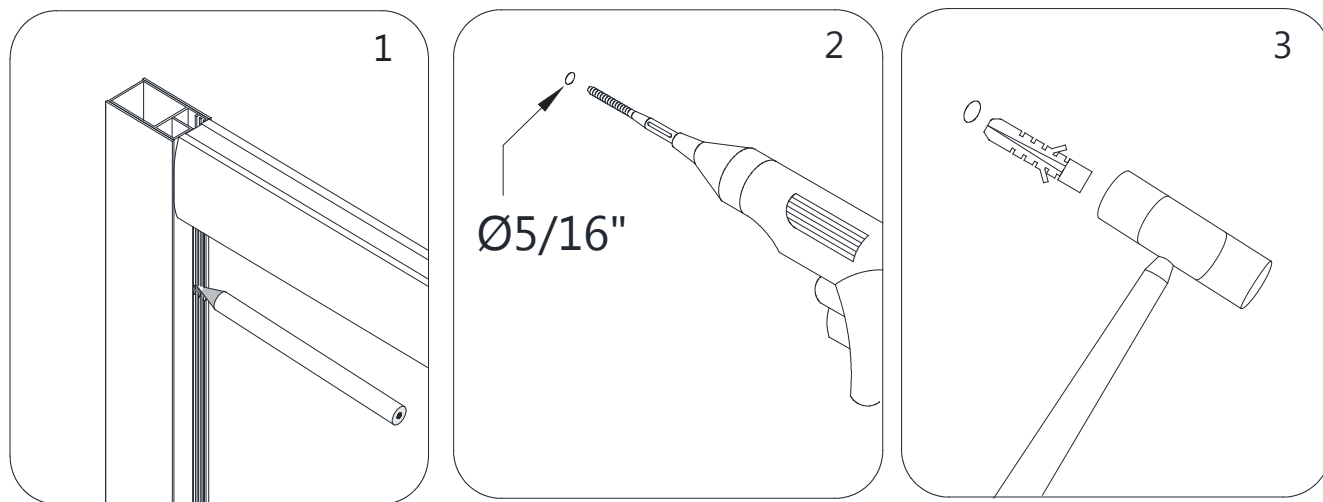

Fig 9
7. Use an assistant to hold the assembly in position and mark the holes for drilling on the wall through the holes in the **Glass Profiles (#01)** and the **Wall Profiles (#02)**. Gently set the assembled unit aside; drill the holes using a **Ø5/16"** drill bit and insert the **Wall Anchors (#14)**. **(Fig 9)**